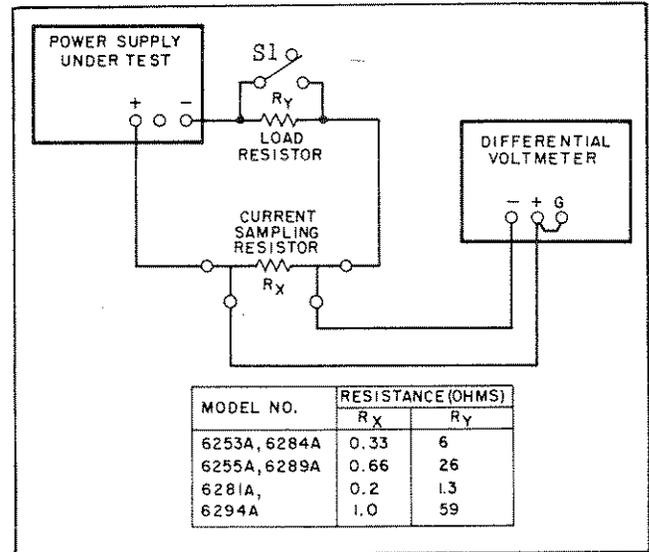

Figure 5-4. Output Current Test Setup
- a. Connect test setup as shown in Figure 5-4 leaving switch S1 open.
- a. Connect test setup as shown in Figure 5-4.